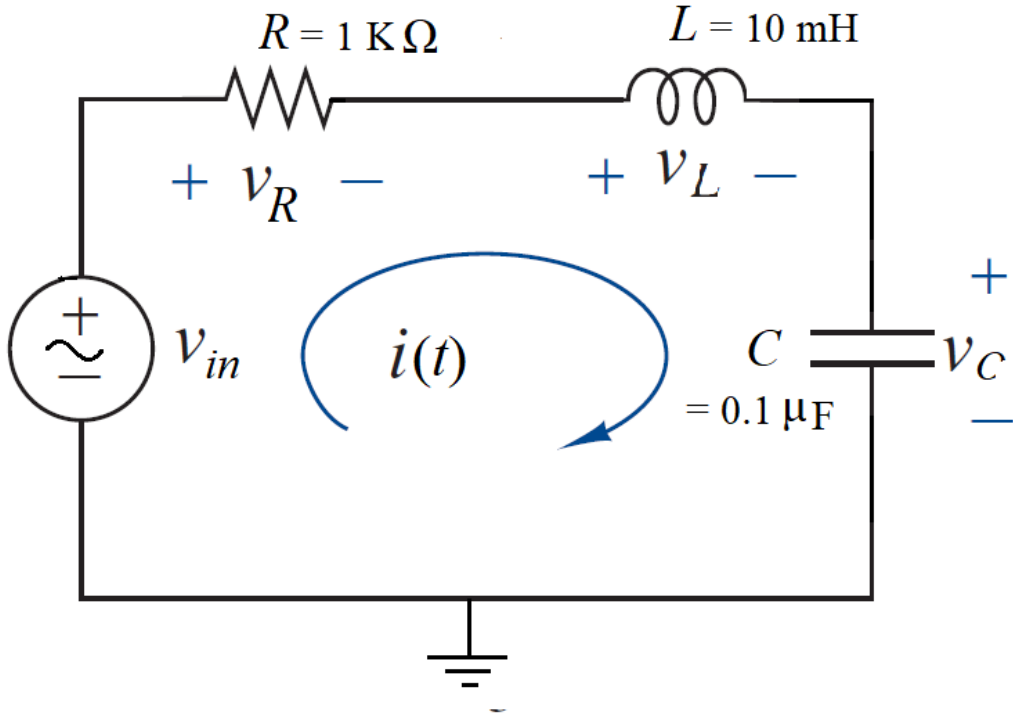

Figure 1: A series RLC Circuit.
1. For the circuits inductance and capacitance values calculate the resonant frequency and connect the circuit as shown in Fig. 1.